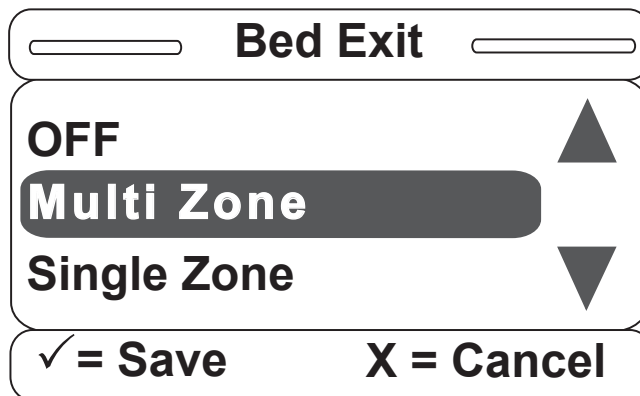

Figure S-12
12. Once the Bed Exit item is selected, the screen in Figure S-12 will be displayed. You can set the Bed Exit Option to OFF, Multi Zone or Single Zone. Hit “Enter” on the footboard panel to make your selection or “Exit” to cancel.